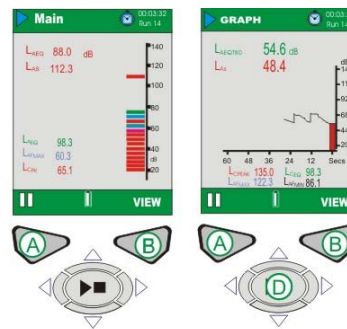

Figure 12 Main/Graph Screen.
CEL-620A (Refer to Figure 12). The broadband values can be viewed as a bargraph on the Main screen, or as a graphical time history on the Graph screen. Pressing View key (B) toggles between Graph and Main screens.
The CEL-620B model will display all of the screens shown in Figure 12 and 13.